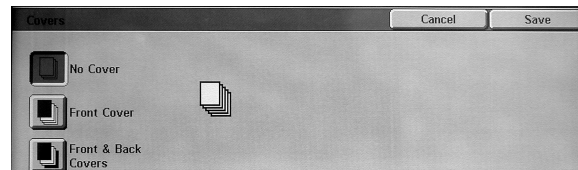

Figure 20: Output Format - Covers options
- 1 Touch the **Covers** button on the Output Formats tab to display the Covers screen (Figure 20).
- **No Cover** (default setting, Figure 20)